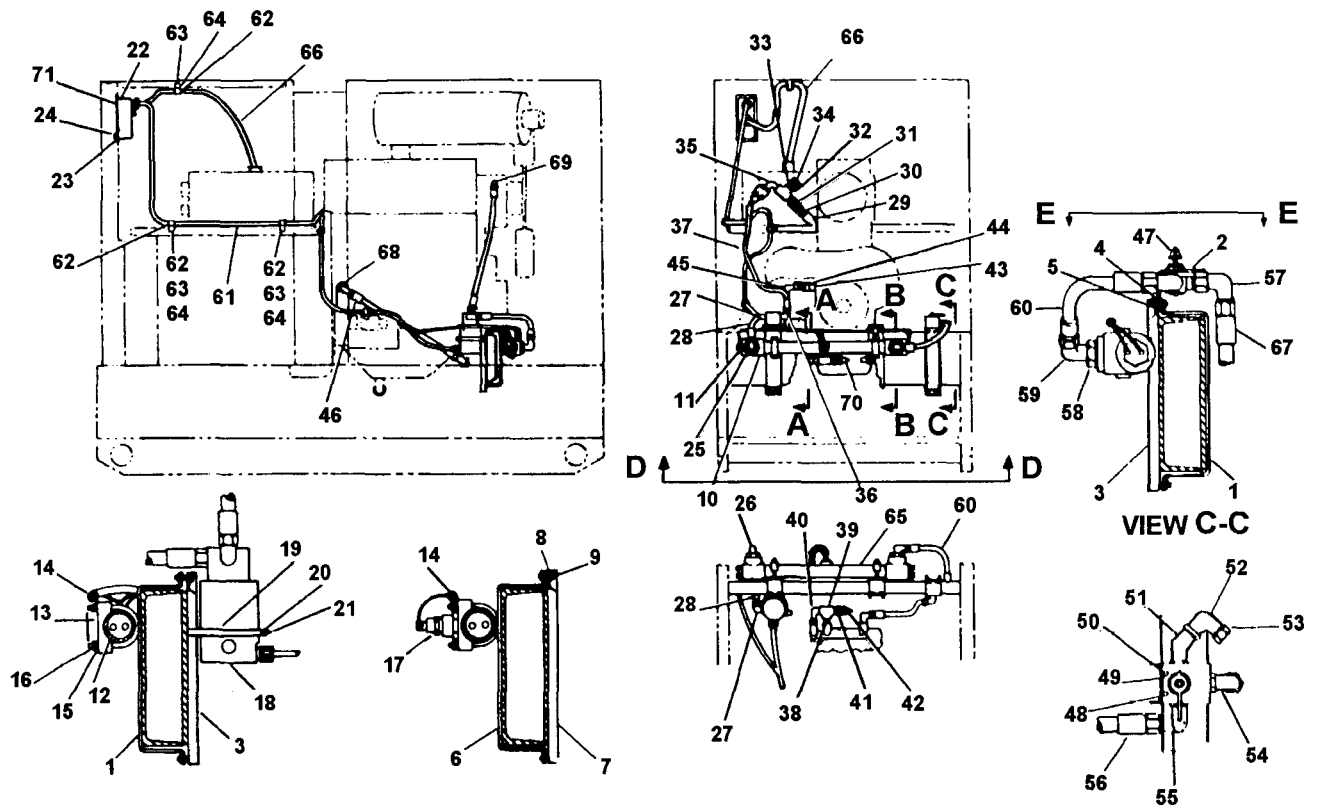

Figure 5-5. Electric Winterization Kit Installation (Sheet 1 of 2)
- (1) Drain generator set cooling system (paragraph 3-27).
- (2) Remove "WATER" plug (68, Figure 5-5) from center, right-rear of engine cylinder block.
- (3) Remove plug (69) from right side of engine water pump assembly.
- (4) Remove plug (70) from engine oil pan heat exchanger.
- (5) Remove cover plate (71) from heater control assembly mounting hole located to the right of the generator set control cubicle assembly.
- (6) Install electric winterization kit by following the ascending sequence of index numbers (1 through 71) assigned to Figure 5-5.